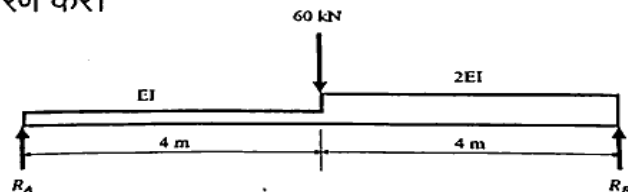

Fig. 1/चित्र 1
b) Determine the deflection under 60 kN load in the beam shown below in Fig. 1.